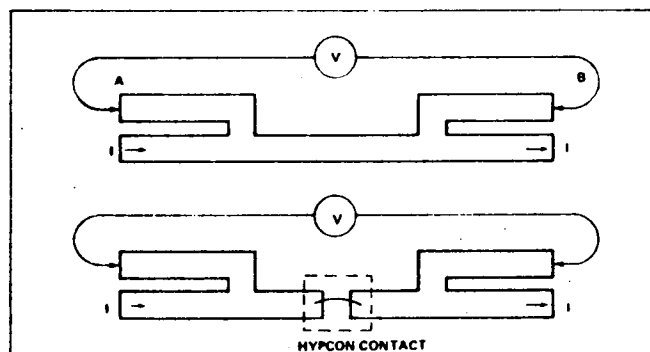

Figure 6. Diagram--Four-Point Resistance Measurement Test Fixture
Four-point resistance measurements of the FLAT HYPCON contacts against a separated conductor were compared with the resistance of a continuous conductor as shown in Figure 6. A constant current was injected at the point marked (I) on the upper pattern and voltage was measured between points A and B with a high-impedance voltmeter. Resistance between A and B was calculated by dividing the voltage by the current. The measurement was repeated on the lower pattern. The difference was taken as the contact resistance. The HYPCON contact resistance was found to be less than 20-milliohms in all cases.